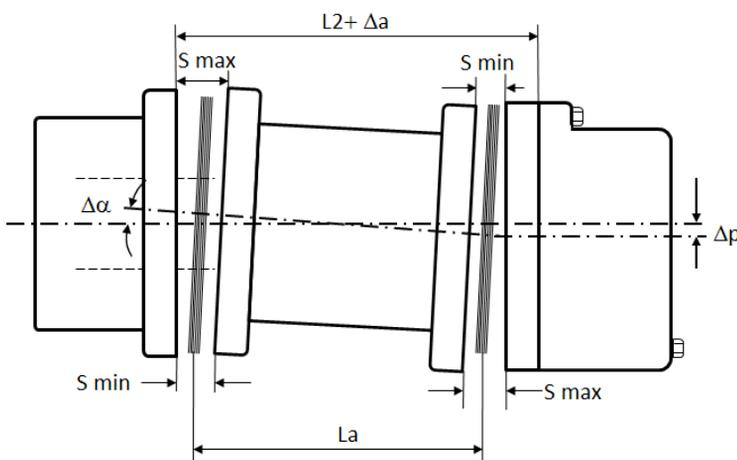

Figure 3 Double flex coupling alignment dimensions
- Position the hubs axially so that the distance between shaft ends is within the minimum and maximum dimensions $L2 \pm Da$ or $S \pm Da/2$. See Figures 3 and 4, respectively, for reference.
2. Dimension $\Delta \alpha$, as shown in Figures 3 and 4, should be measured in at least three points, equally spaced, to determine the maximum value for $\Delta \alpha$. This must not exceed the maximum allowable dimension stated in the Technical Detail tables for each coupling series.